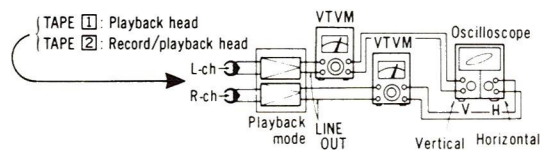
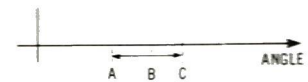
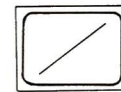

Fig. 6
Fig. 5
Fig. 7
⑤ Head azimuth adjustment [TAPE ①, TAPE ②] Condition: • Playback mode Equipment: • VTVM • Oscilloscope • Test tape (azimuth) ... QZZCFM	L-ch/R-ch output balance adjustment 1. Make connections as shown in fig. 3. 2. Playback the 8kHz signal from the test tape (QZZCFM). Adjust screw (B) in fig. 4 for maximum output L-ch and R-ch levels. When the output levels of L-ch and R-ch are not at maximum at the same time, readjust as follows. 3. Turn the screw shown in fig. 4 to find angles A and C (points where peak output levels for left and right channels are obtained). Then, locate the angle B between angles A and C, i.e., a point where L-ch and R-ch output levels come together at maximum. (Refer to figs. 4 and 5.) L-ch/R-ch phase adjustment 4. Make connections as shown in fig. 6. 5. Playback the 8kHz signal from the test tape (QZZCFM). Adjust screw (B) shown in fig. 4 so that pointers of the two VTVMs swing to maximum and a waveform as illustrated in fig. 7 is obtained on the oscilloscope.  Fig. 3  Fig. 4  Fig. 5  Fig. 6  Fig. 7
4. Make connections as shown in fig. 6.
5. Playback the 8kHz signal from the test tape (QZZCFM). Adjust screw (B) shown in fig. 4 so that pointers of the two VTVMs swing to maximum and a waveform as illustrated in fig. 7 is obtained on the oscilloscope.